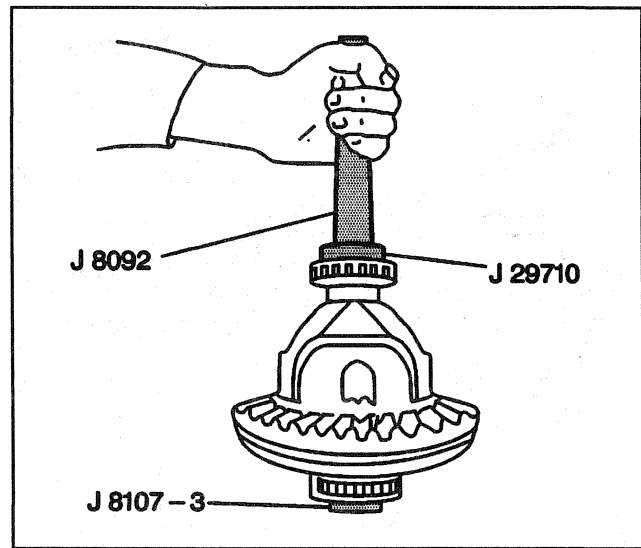

Figure 21—Installing the Side Bearing
8. Differential side bearings using J 29710, J 8107-3, and J 8092 (Figure 21).